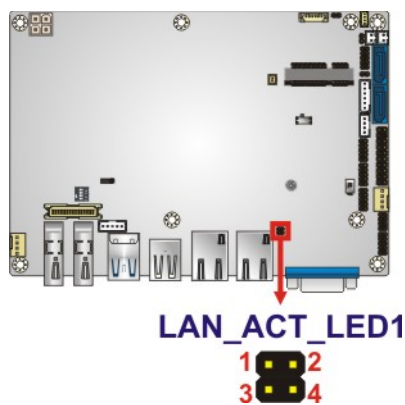

Figure 3-12: LAN Active LED Connector Location
- CN Location:** See **Figure 3-12**